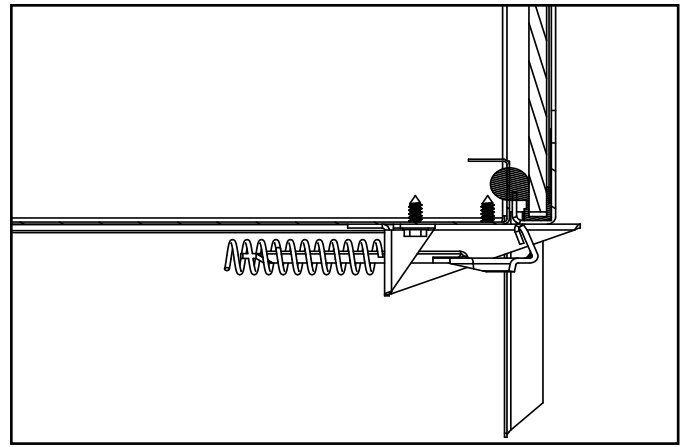

Figure 4.2 Fixed Glass Assembly
- The glass assembly fastens to the fireplace in four places. The four fastening mechanisms are spring-loaded glass latches. An example of the glass latch is shown in Figure 4.2.